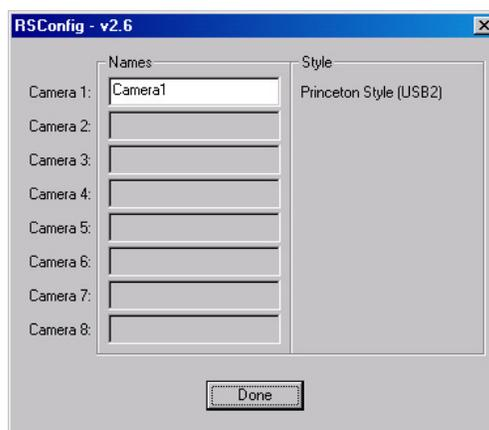

Figure 9. RSConfig dialog
3. When the RSConfig dialog (Figure 9) appears, you can change the camera name to one that is more specific or you can keep the default name "Camera1". When you have finished, click on the **Done** button.